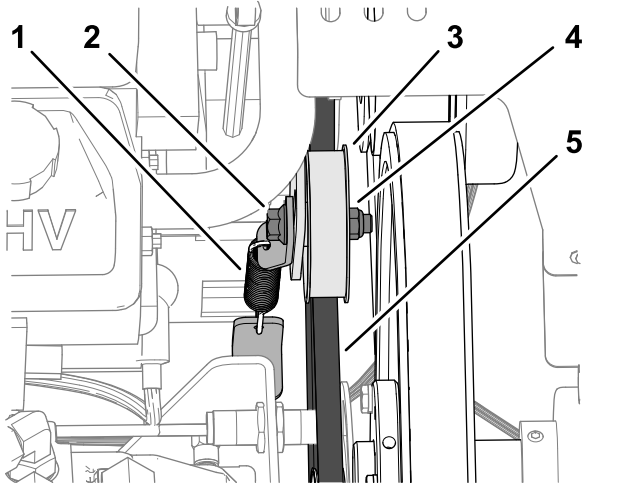

Figure 176
3. Loosen the flange-head capscrew and flange locknut that secure the idler pulley for the hydraulic-pump belt, until the bolt moves in the slot of the idler support (Figure 176).